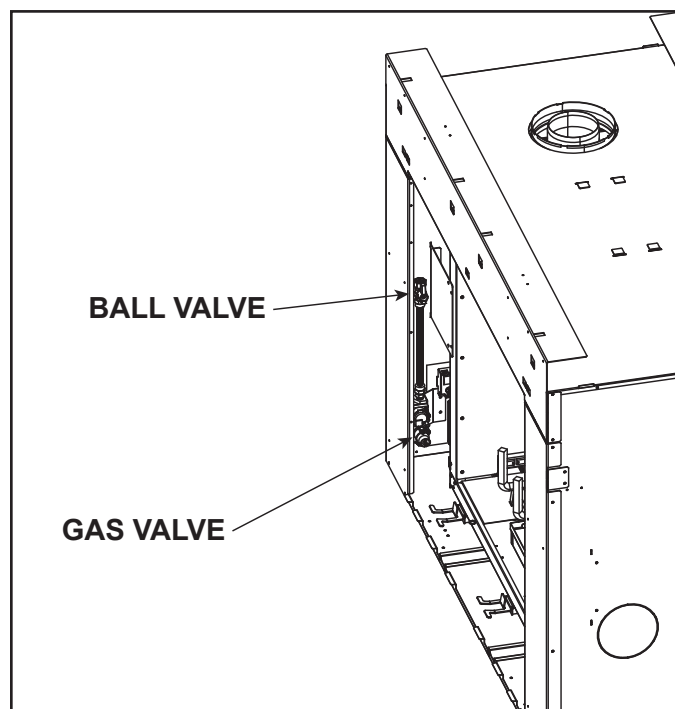

Figure 1. Location of Gas Valve and Ball Valve
1. Turn off gas to valve at ball valve. See Figure 1.